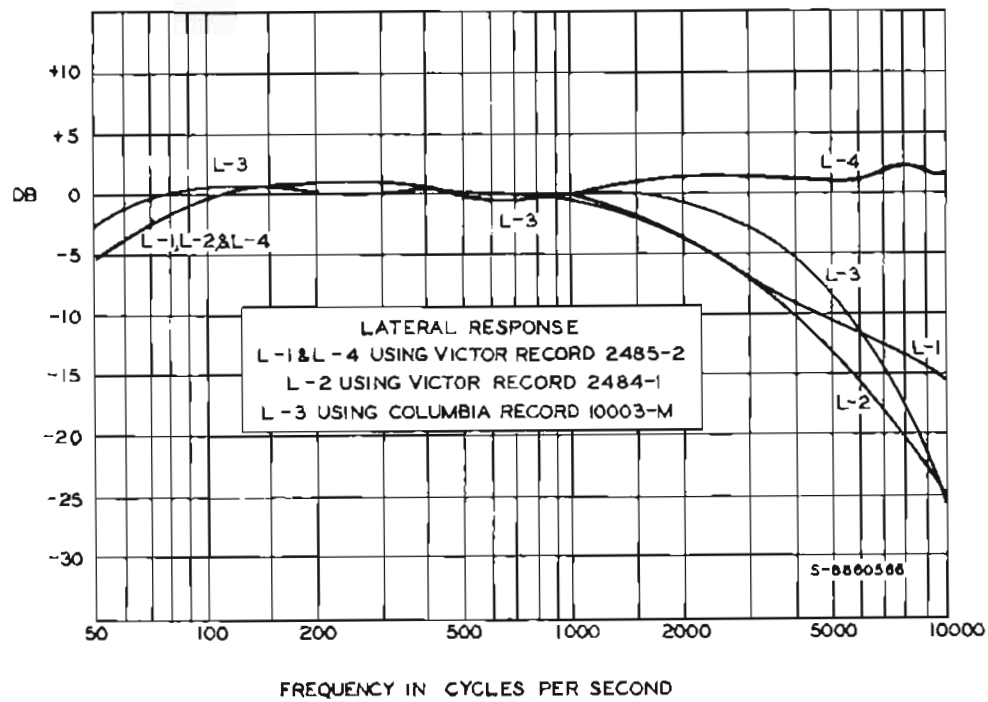
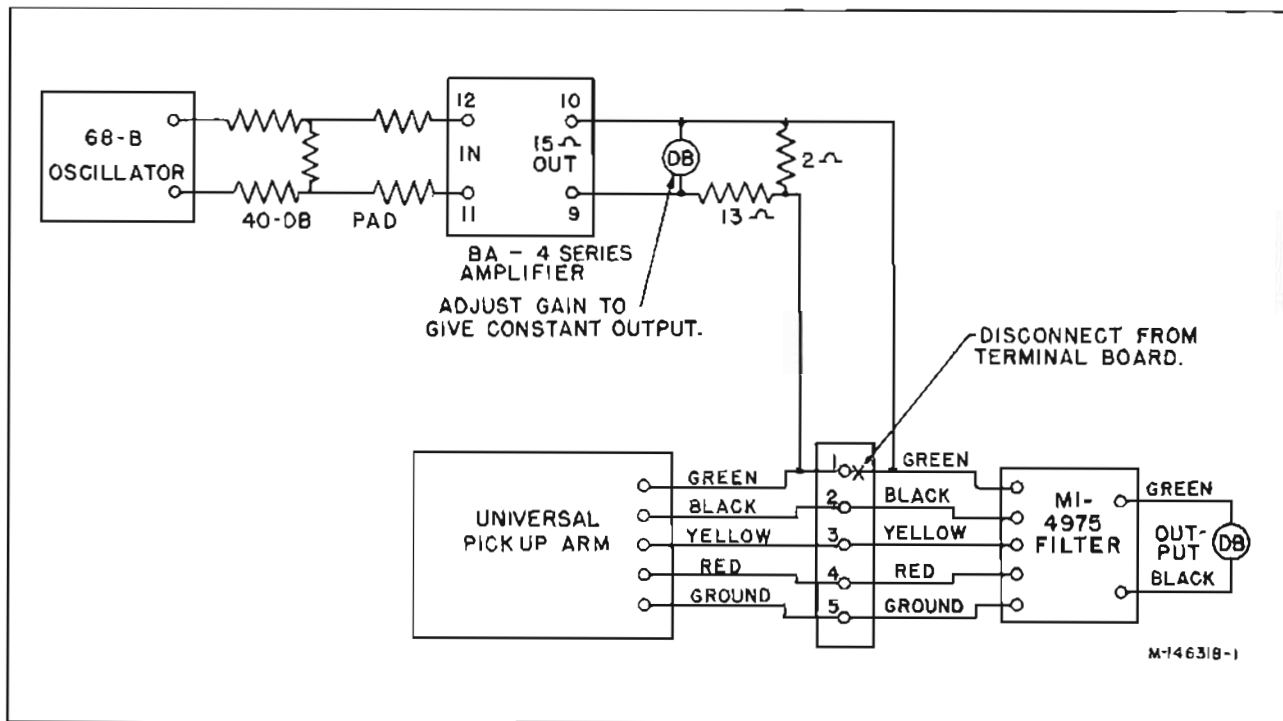

Figure 7—Overall frequency response for lateral switch positions using test records.
Figure 11—Circuit for checking frequency response with oscillator signal.
29. The filter switch dial has six positions, four for lateral reproducing and two for vertical reproducing. Refer to figures 7 through 10 for the various response curves using record and oscillator inputs. Figure 11 illustrates the connections to be made to secure the oscillator curves.